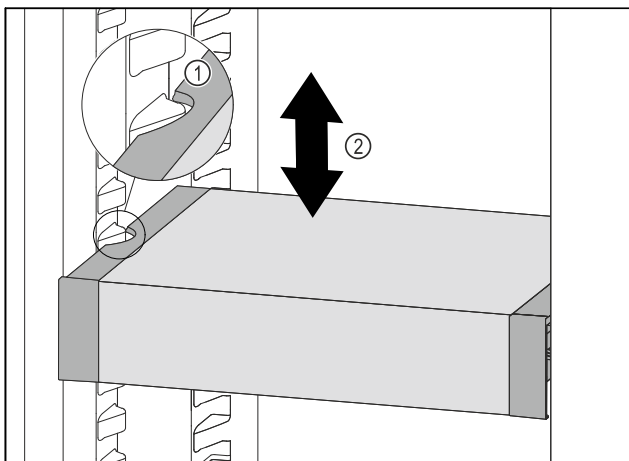

Fig. 146
- Pull VarioSafe forwards until the recesses in the side of the VarioSafe are at the level of the support rib in the refrigerator compartment. Fig. 146 (1)
- Move VarioSafe up or down in the refrigerator compartment until the desired height is reached. Fig. 146 (2)